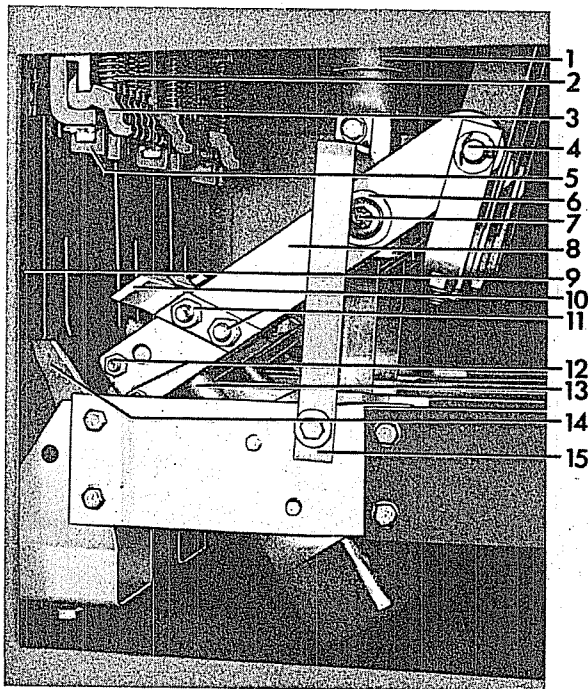

Figure 23. (8039588) Contact Assembly
3. The stationary primary contact fingers (3) Figure 23, should be disassembled and the silver-plated pivot area of the contact and contact support cleaned and lubricated with G-E lubricant D50H47.
5. Reassemble in the reverse order, make sure locking plates are properly re-assembled with bolts (8).
#### B. Movable Arcing Contact (14) Figure 23.
1. Remove the assembly bolts (12) making note of quantity and location of shims and spacers used between contacts and contact arms.
3. Close the breaker slowly to check that the movable arcing contact is approximately centered on the stationary arcing contact and that it does not rub on either side of the throat barrier (9).
#### D. Movable Primary Contacts (10) Figure 23.
3. Rotate the two parts of the contact arm assembly away from each other so assembly bolts (11) are accessible and movable primary contacts (10) can be removed.
E. Contact Arm Assembly (8, 10, 12, 14, Figure 23).
1. Remove connection bar (15).
2. Disassemble hinge pin (7), cup bearing (6), and operating rod pin (4) noting quantity and location of any washers
3. Remove the connection bar (15) Figure 23, cup bearing (6) and hinge pin (7).
5. When reassembling, first mount the bushing and assemble the cup bearing (6), contact arm (8), and replace pin (7) being sure the silvered contact washers between the bushing and contact arms are in place. The contact surfaces at the hinge point of the contact blade and bushing should have a thin coating of D50H47 grease.